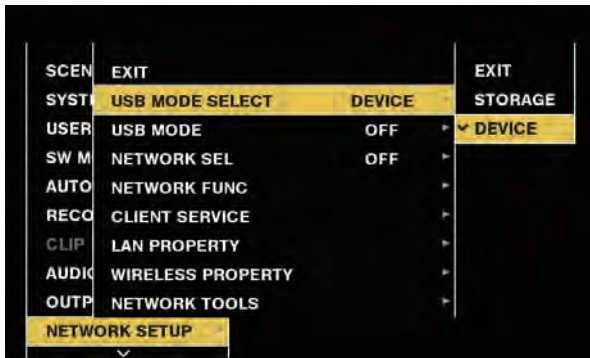

Fig. 2
**2** Set to [DEVICE] in the main menu → [NETWORK SETUP] → [USB MODE SELECT]. (Fig. 2)